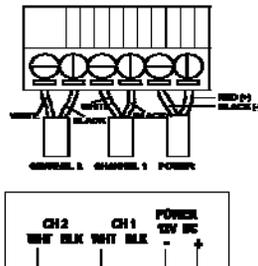

Figure 7-1. Meter connections.
- Install the wires into the green meter connector and snugly tighten each terminal. Use Figure 7-1 as a guide.